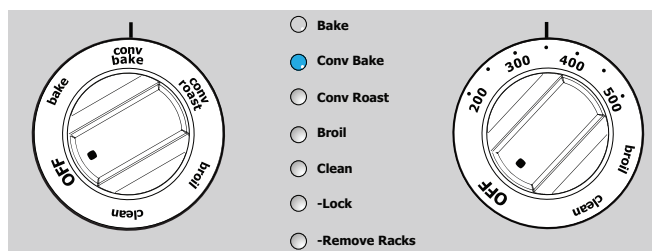

Figure 17: Convection bake selection
2. Turn the function dial to **conv bake**. The Conv Bake indicator light will flash (Figure 17).
3. Turn the temperature control knob to the **350**. The **Conv Bake** indicator light will remain on but stop flashing. The oven will begin preheat (Figure 17). The convection fan will turn on after 6 minutes and remain on during the cooking process.